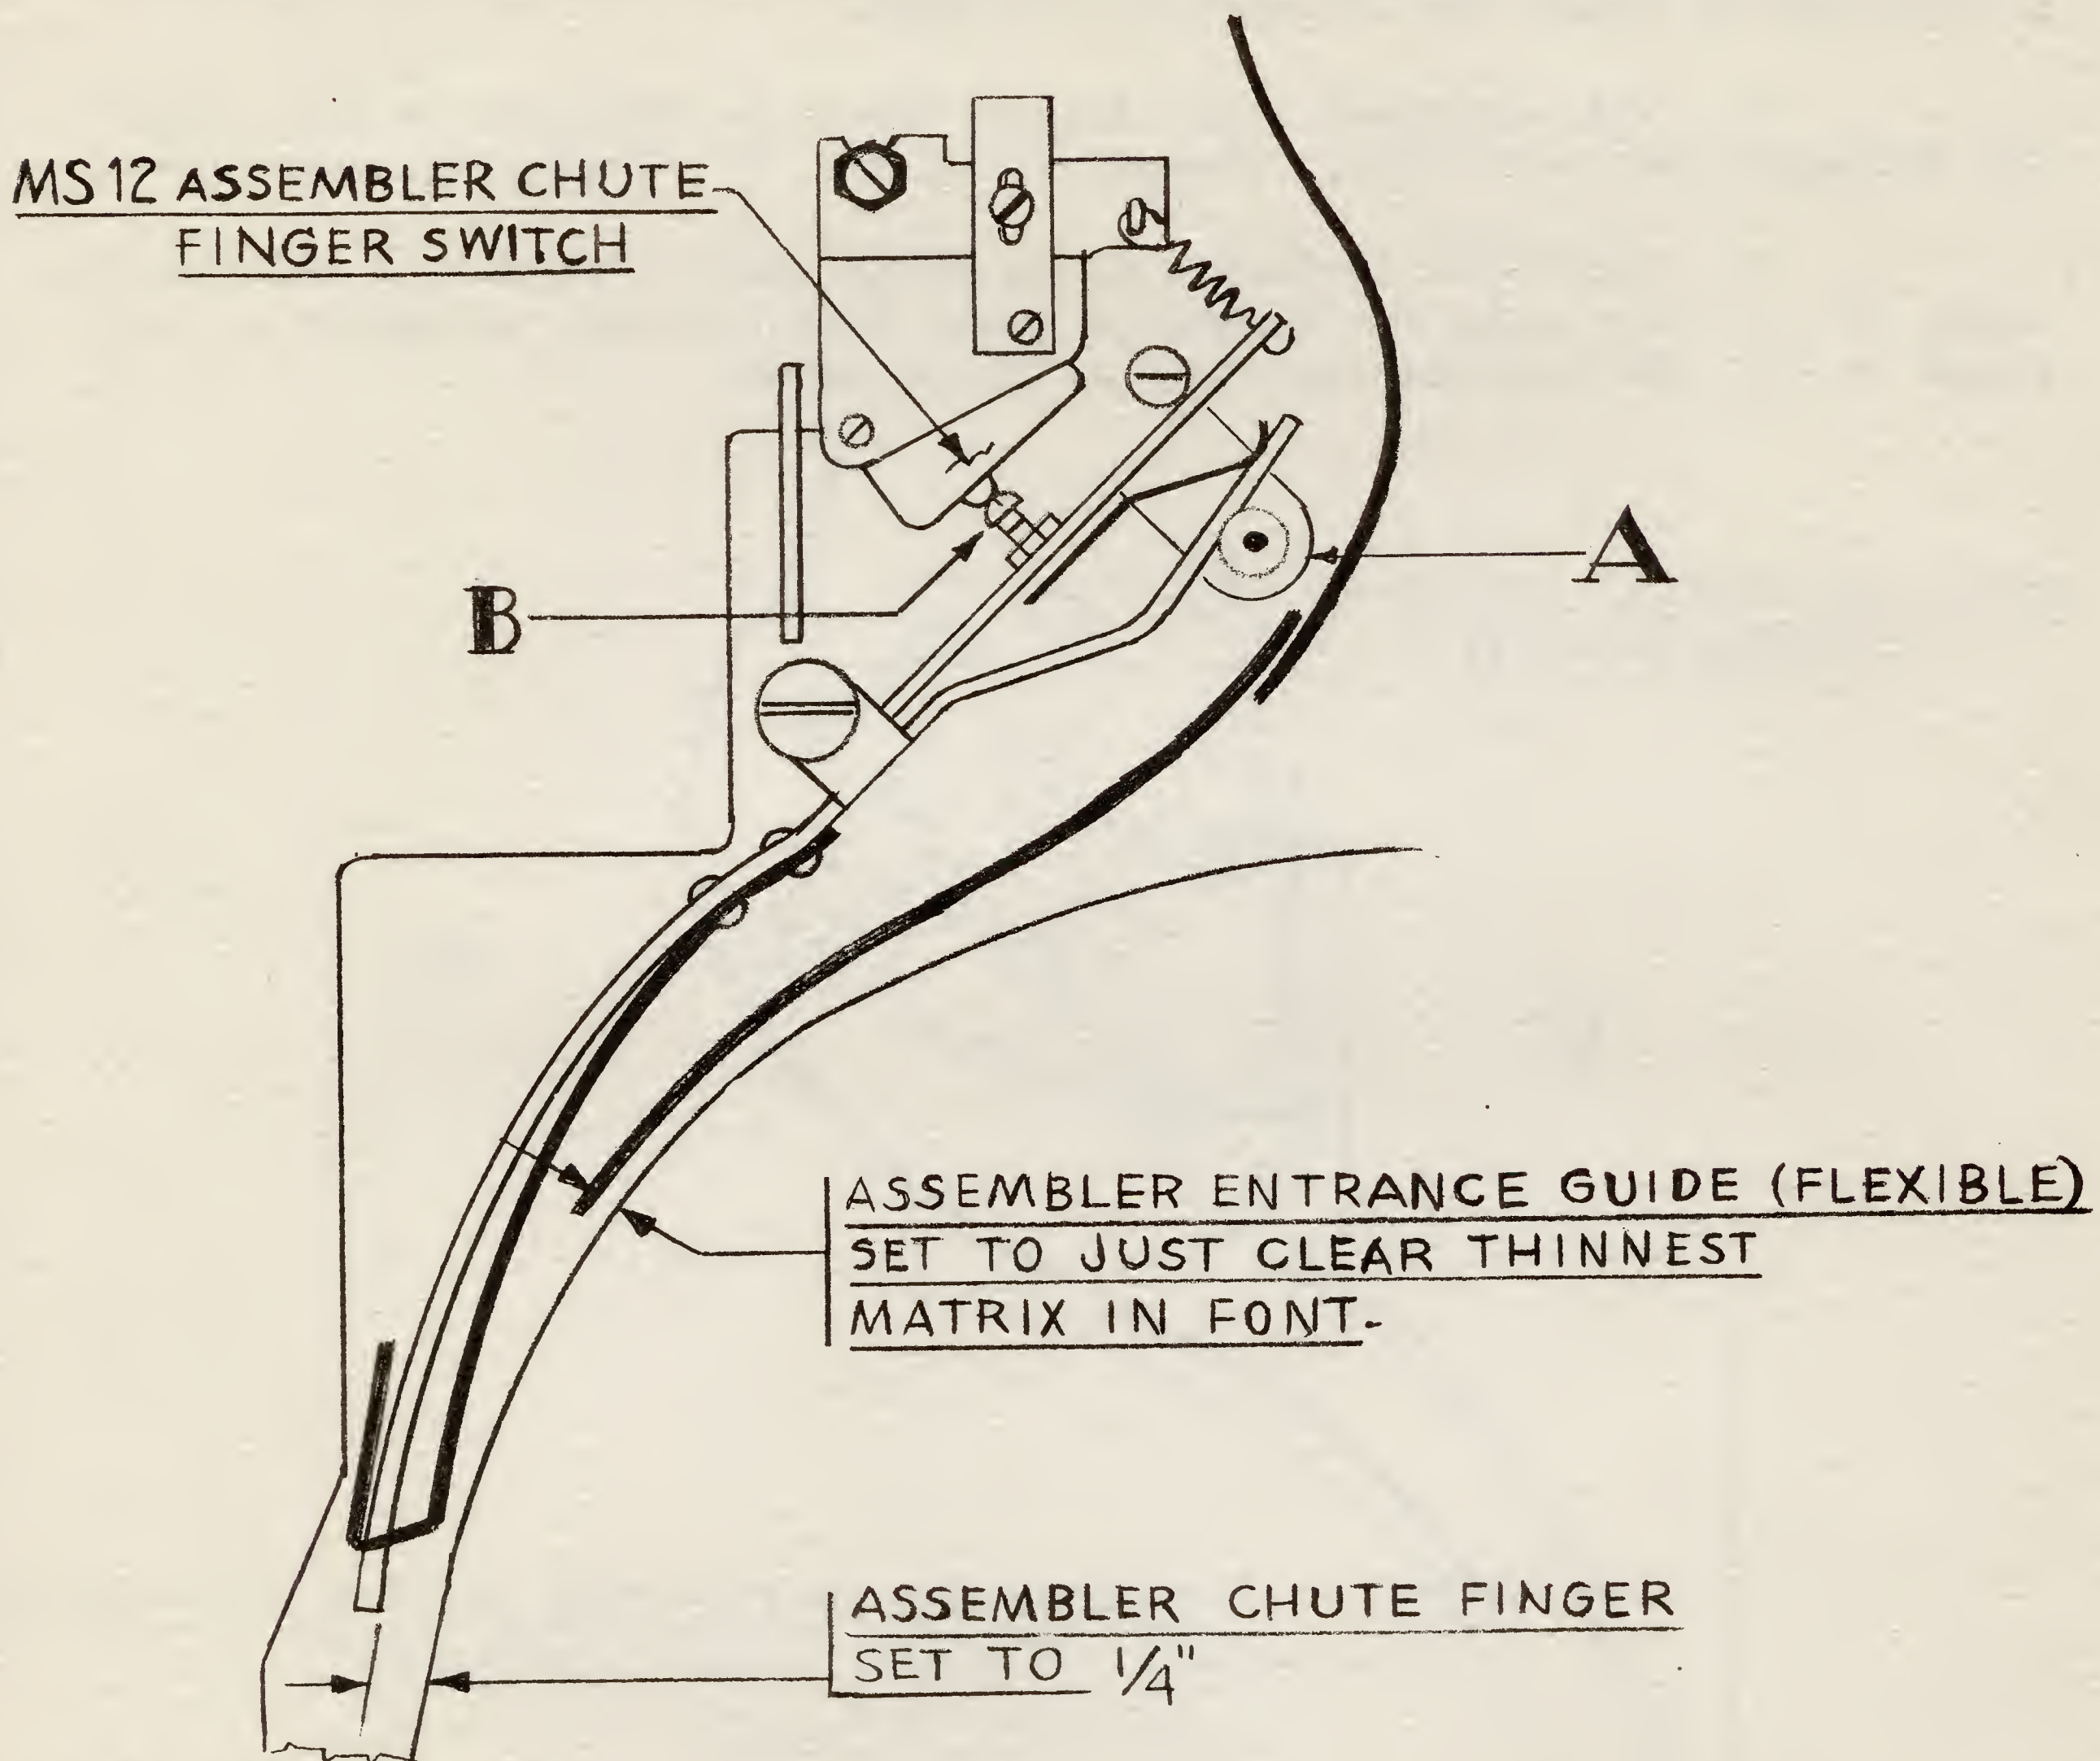

FIG. 6A
\* (FF) Assembler Chute Finger (Universal) (Fig. 6A)